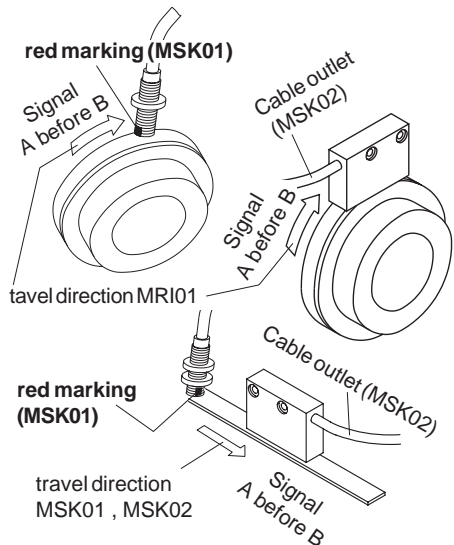

Fig. 6: Definition of counting direction
- **Sensor must be aligned correctly with respect to the counting direction** (see fig. 6). This can be ignored if counting direction can be changed via the follower electronics (eg. by magnetic display units from **SIKO**).